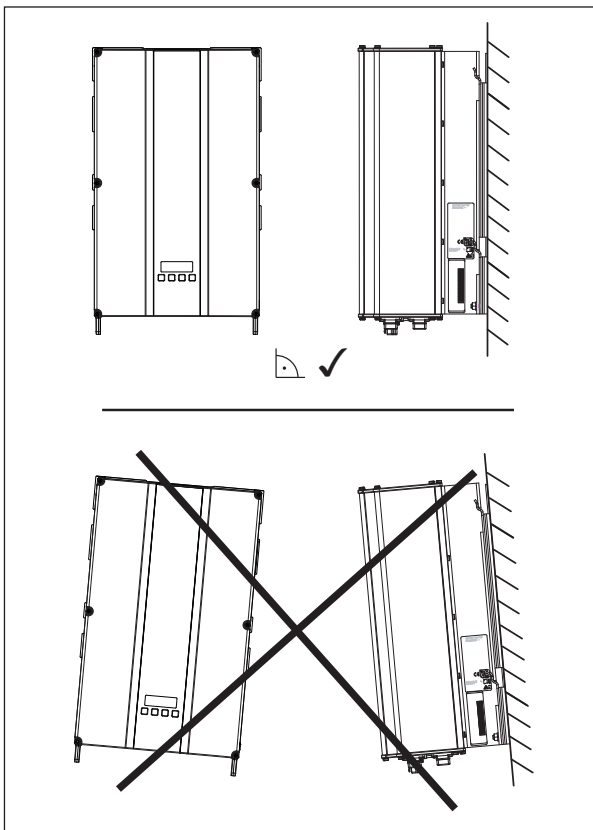

Fig. 7.1.: Mounting alignment
- ▶ Mount the solar power inverter vertically, see Fig. 7.1.